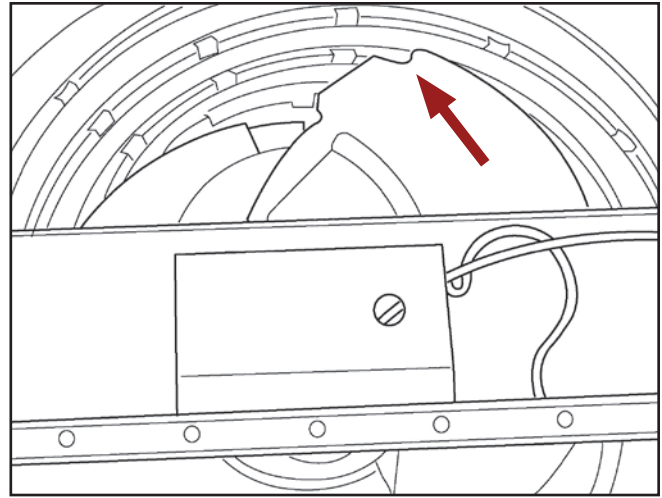

Figure 26.2
- Wear that develops a noticeable “hook” may lead to hair pinning of material, and impaired flow. Impeller replacement is necessary in this case (see figure 26.2).